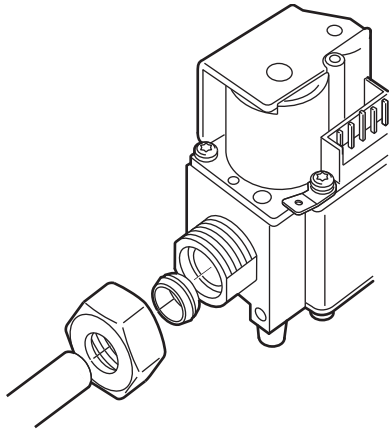

Fig. 5. External thread connection with nut and olive
- ③ With $\frac{3}{4}$ " nut and olive (fig. 5.)